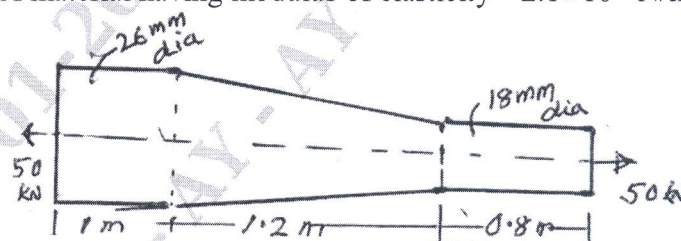

Fig. Q2 (b)
- b. Find the total elongation of the bar shown in Fig. Q2 (b) subjected to an axial tensile force of 50 kN on the bar of material having modulus of elasticity =  $2.1 \times 10^5 \text{ N/mm}^2$ . (04 Marks)